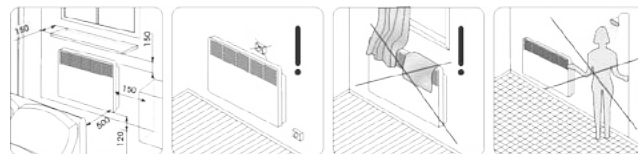
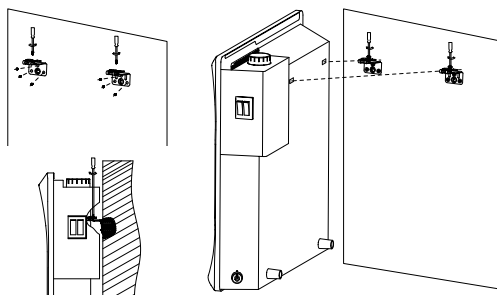

Fig. 3
Fig. 4
3. In accordance with Fig. 3 and Fig. 4 specify a place for convector installation with observance of minimum distances from objects and minimum distance from the floor.